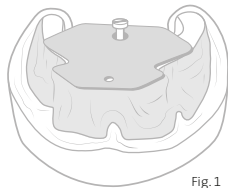

Fig. 1
9. The mandible registration plate is fixed to the occlusal level and notches are made in the wax wall to aid keying (Fig. 1).